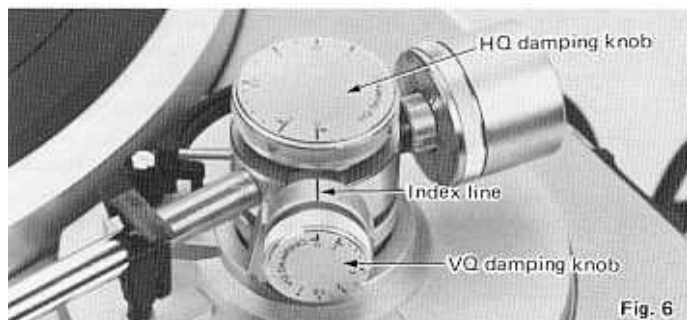

Fig. 6
2. Turn the HQ damping knob until the "0" mark is aligned with the index line. (See Fig. 6)
3. Turn the VQ damping knob until the "0" mark is aligned with the index line. (See Fig. 6)